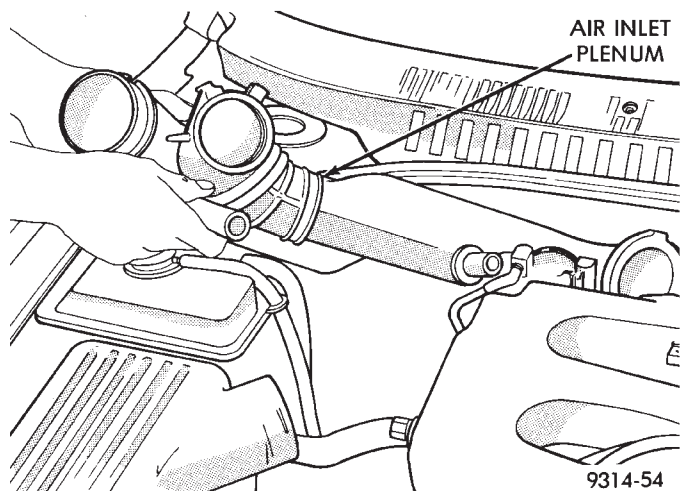

Fig. 23 Air Inlet Plenum—3.5L Engine
(10) Disconnect PCV make-up air hose and idle air control motor supply hose (part of air inlet plenum). Remove air inlet plenum from behind manifold (Fig. 23).
(11) Disconnect PCV hose, brake booster hose and vacuum hoses from intake manifold.